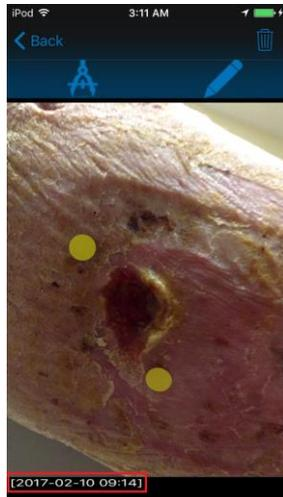

Figure 10: Viewing a Saved Image
- The date and time of acquisition is always saved with the image in the bottom left corner as depicted in Figure 10. This is only applicable to saved images. Acquired videos are not saved with the date and time of acquisition.